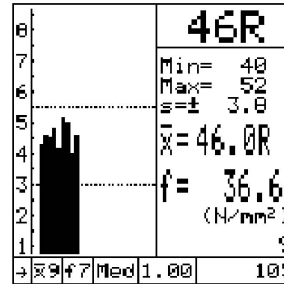
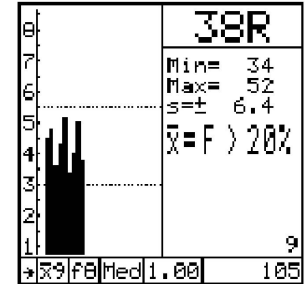

Fig. 5.4 Series meet EN 12504/2
Fig. 5.5 Series outside tolerances
- If "Median" is set (only possible from version 4.0 on), the measuring display appears as shown in Fig. 5.4 respectively Fig. 5.5.